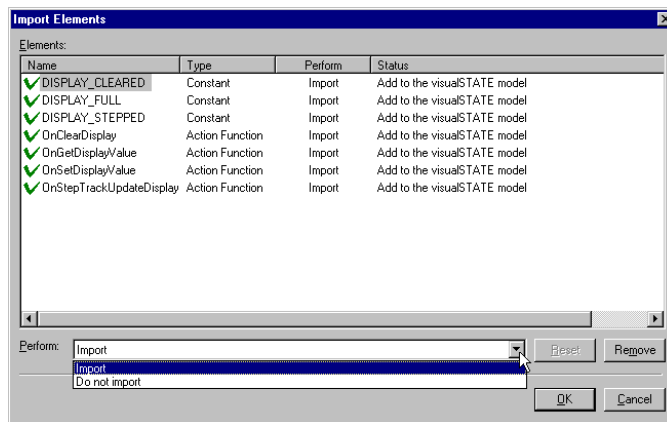

Figure 84: Import Elements dialog box (Designer)
- 3 The header file will be loaded and analyzed for function declarations and constants, and an Import Elements dialog box is displayed. See *Figure 84*, page 105.